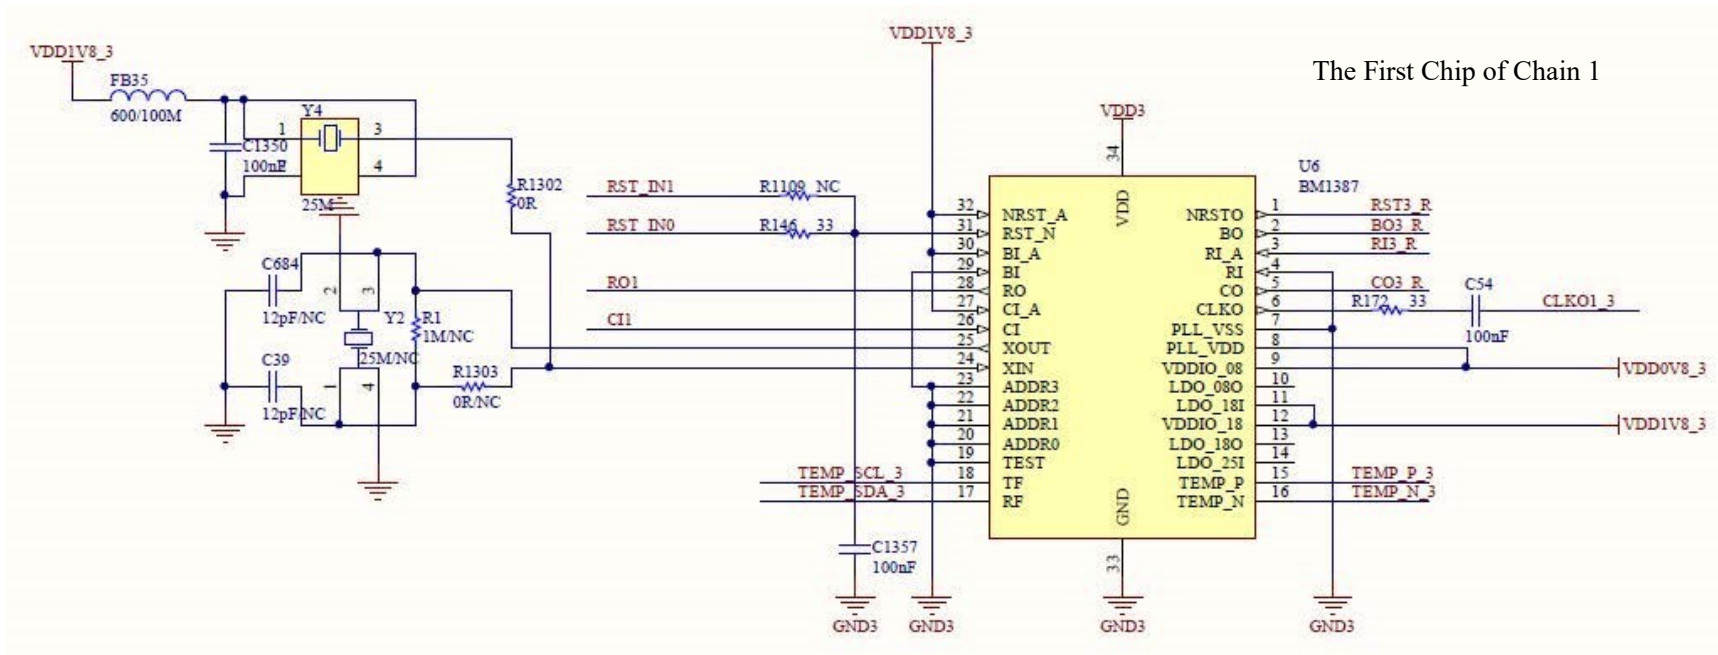

Fig 5. The Critical Circuits on the Front of T9+ Hashboard
2) Voltage Domain: the entire board has 18 voltage domains, and each domain has 3 chips. The 3 chips in the same voltage domain are in associated power supply, and then connect other voltage domains in series. The circuit structure of all the three chips are the same below Fig 5: